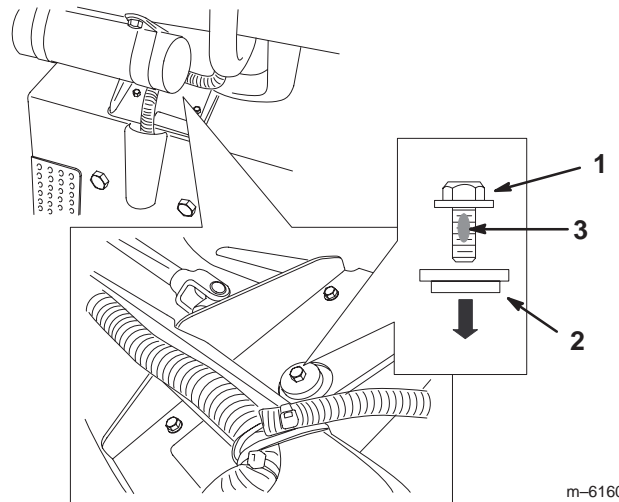

Figure 4
1. Remove the existing retaining bolt and washer (located under the dash) and discard them (Fig. 4).
2. Install a new flange-head bolt with blue patch lock and a step washer with the step pointing down into the steering pitman arm (Fig. 4).